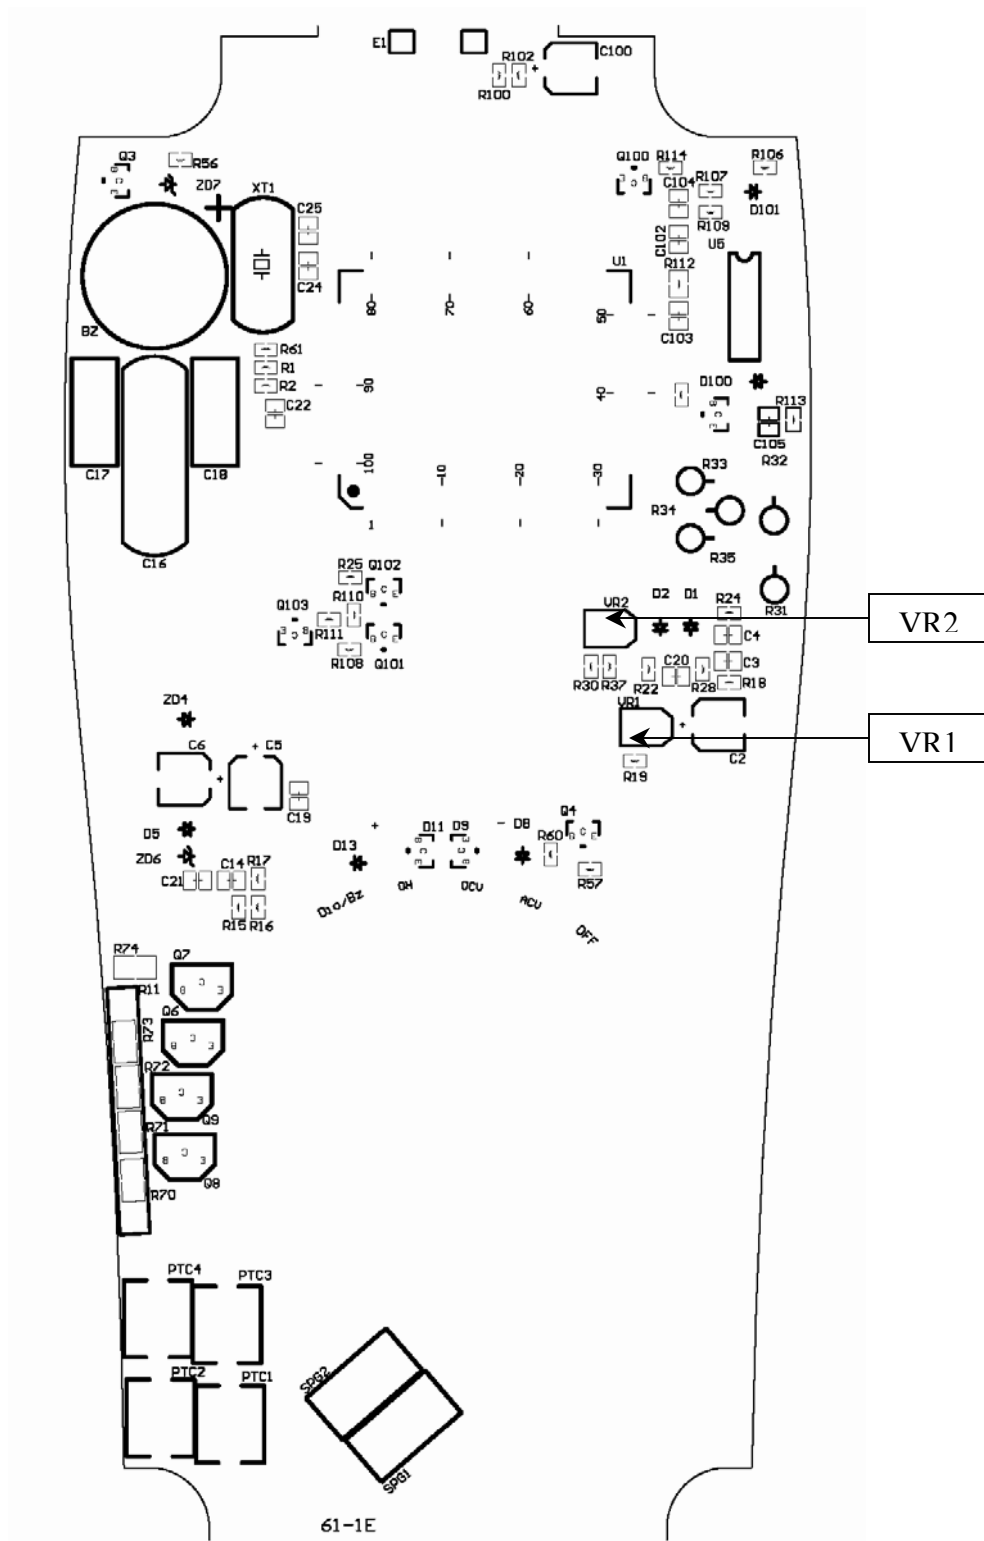

Figure 3 61-350 Calibration Adjustment Points
#### **(A) DCV Calibration (Adjust VR2) (Refer to Figure 3)**
#### **(B) ACV Calibration (Adjust VR1) (Refer to Figure 3)**